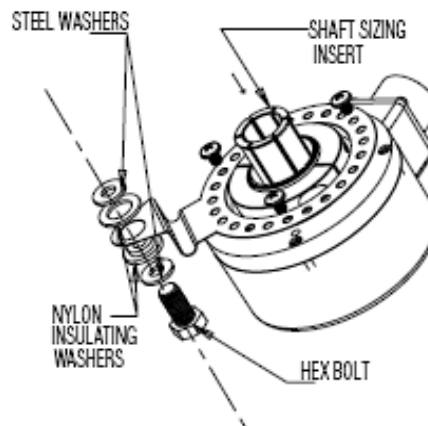

Figure 1
- 2) Install the supplied tether point mounting hardware: Steel washers, two-piece Nylon insulation washer, and bolt. (See Figure 1)